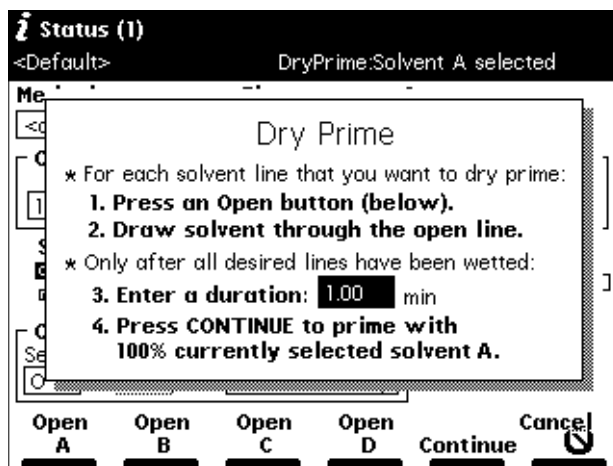

Figure 2-11 Dry Prime Dialog Box
6. Select **Dry Prime**, then press **Enter**. The Dry Prime dialog box appears (Figure 2-11).